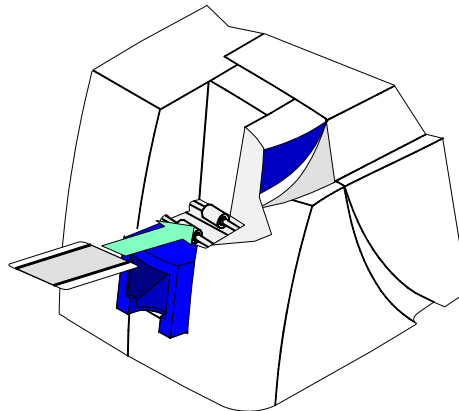

Figure 4-10: Insert the duplex/laminator cleaning card
- 3 Insert the duplex/laminator cleaning card near the bottom of the card cartridge cavity (see Figure 4-10).